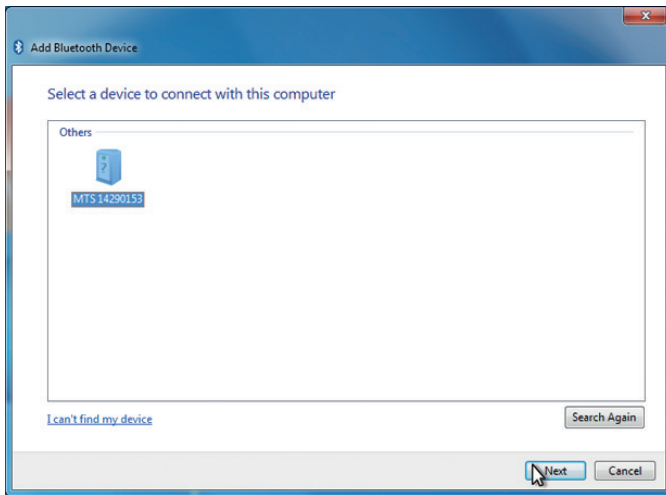
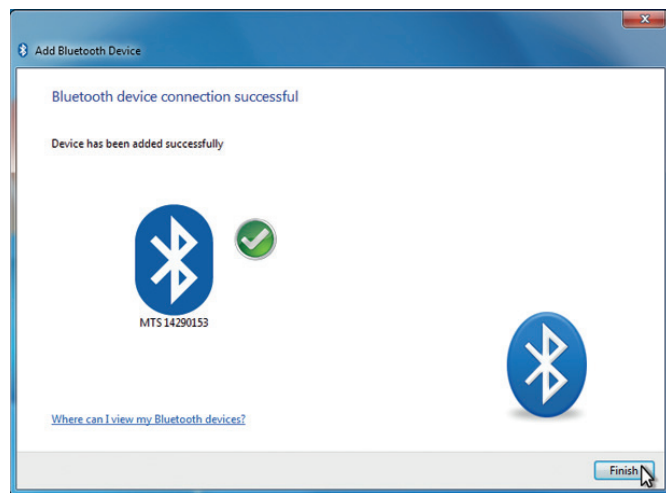

Fig. 3: Add Bluetooth® device
Fig. 4: Connection was successful
2. Window “Add Bluetooth Device” opens. All discoverable Bluetooth® devices located within the operating range are displayed. The name of the sensor for the wireless connection comprises “MTS” and the sensor serial number. Select the MTS unit you want to connect to and click “Next” (fig. 3). After that click “Finish” (fig. 4).